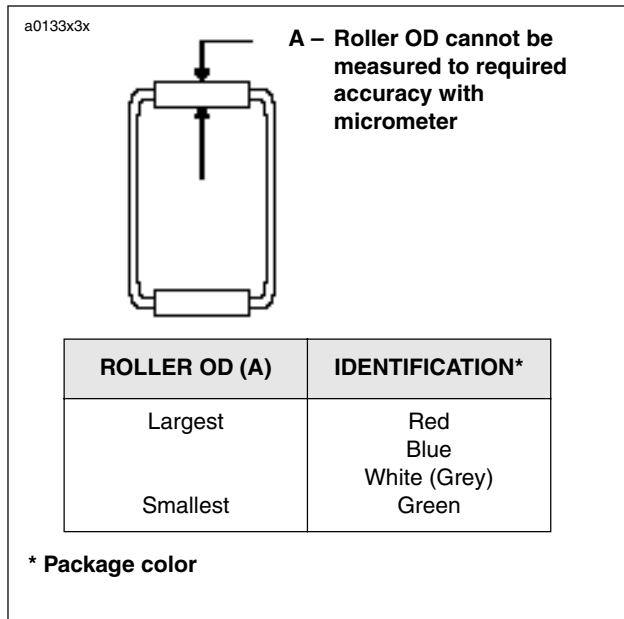

Figure 3-123. Bearing Identification
- 16. See Figure 3-123. Pinion bearings are identified as shown.